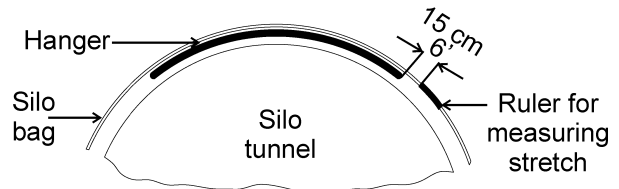

Figure 12 - Positioning of the silo bag on the hanger
3) Use the bags manufacturer middle- of-the-bag mark to center the bag with the cradle. The stretch marks stamped on the bag should always be as shown in fig 12 (15 cm/ 6 inches from the end of the cradle).